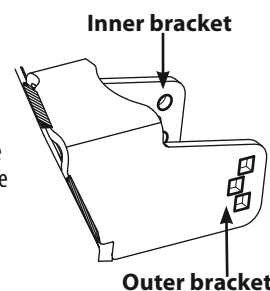

Figure 13
**Note:** On the left side and right side deck gauge wheels, the shoulder screw must be installed from the outside of the tractor inward, through the square hole on the bracket. On center deck gauge wheels (if equipped) the shoulder screw side of the assembly can be installed from either direction. See Figure 13.